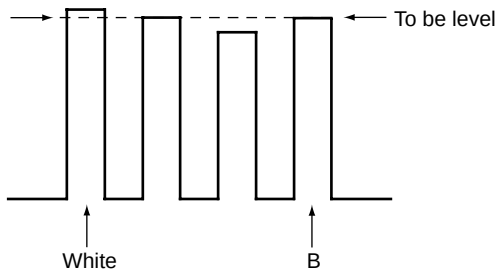

Fig. 3-11
4. Change the signal of 75% color bar, and adjust the SUB CHROMA so that the TP503 (B IN) white level and the B level will be the same. (Fig. 3-11)